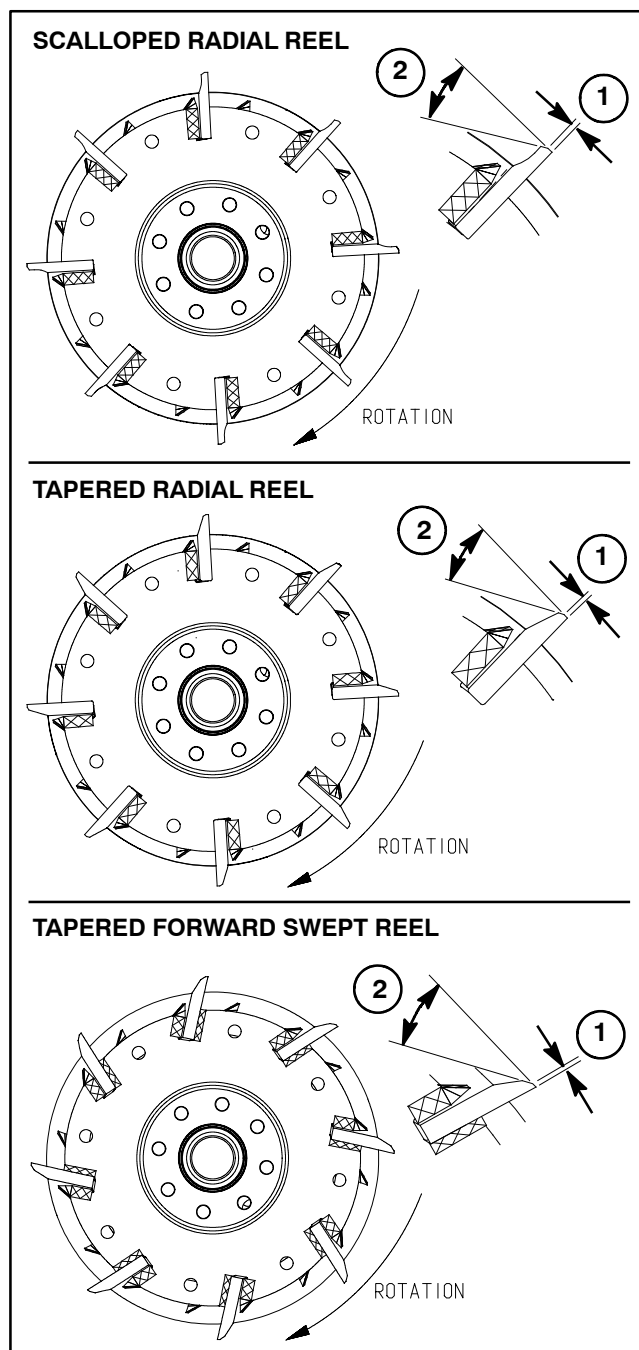

Figure 44
Three (3) types of reel designs are used in Reelmaster cutting units: scalloped radial reel, tapered radial reel and tapered forward swept reel (Fig. 44). The radial reel designs have blades that are placed in line with the center of the reel shaft. The rear of the blades either have a scalloped relief or a tapered relief. The forward swept reel have blades that have a slight forward slant. The rear of the forward swept reel blades have a tapered relief. Before grinding a reel, identify the type of reel design to make sure that grinding is correctly done.